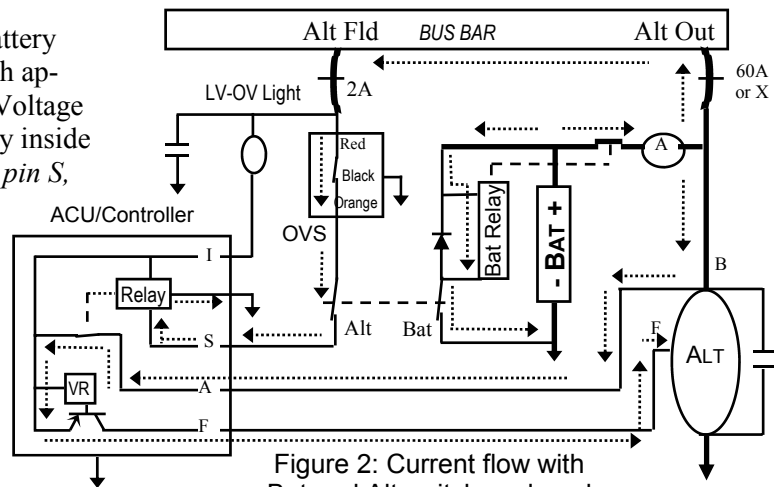

Figure 2: Current flow with Bat and Alt switches closed
Figure 2. With the battery switch closed and battery voltage applied to the bus, closing the Alt switch applies battery voltage to *pin S* through the Over Voltage Sensor (OVS). The OVS' output controls a relay inside the alternator controller. With power applied to *pin S*, the relay's normally open (NO) contacts closes and connects *pin A* and *pin I*. Connecting pins I and A causes the voltage at pin I and the Bus to be the same, meaning no potential difference exists between the two sides of the LV-OV light. The lack of potential difference means no current flow through the light and the light goes or stays off.